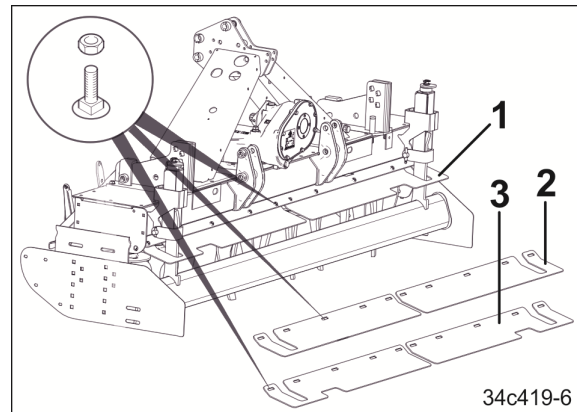

Fig. 73
The protective panels (Fig. 73/1) of the soil tillage implement are available in two versions.
- Protective panel (Fig. 73/2) for all AMAZONE rollers, except Cracker Disk roller (CDW)
- Protective panel (Fig. 73/3) for Cracker Disk roller (CDW).